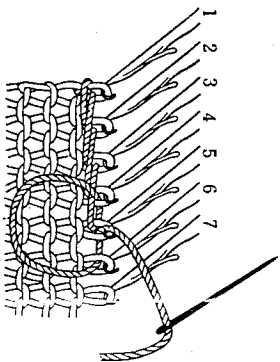

Fig. 71
(A) Thread the needle with yarn three times the length of the garment to be bound off. Insert the needle into the first stitch as shown in Fig. 71